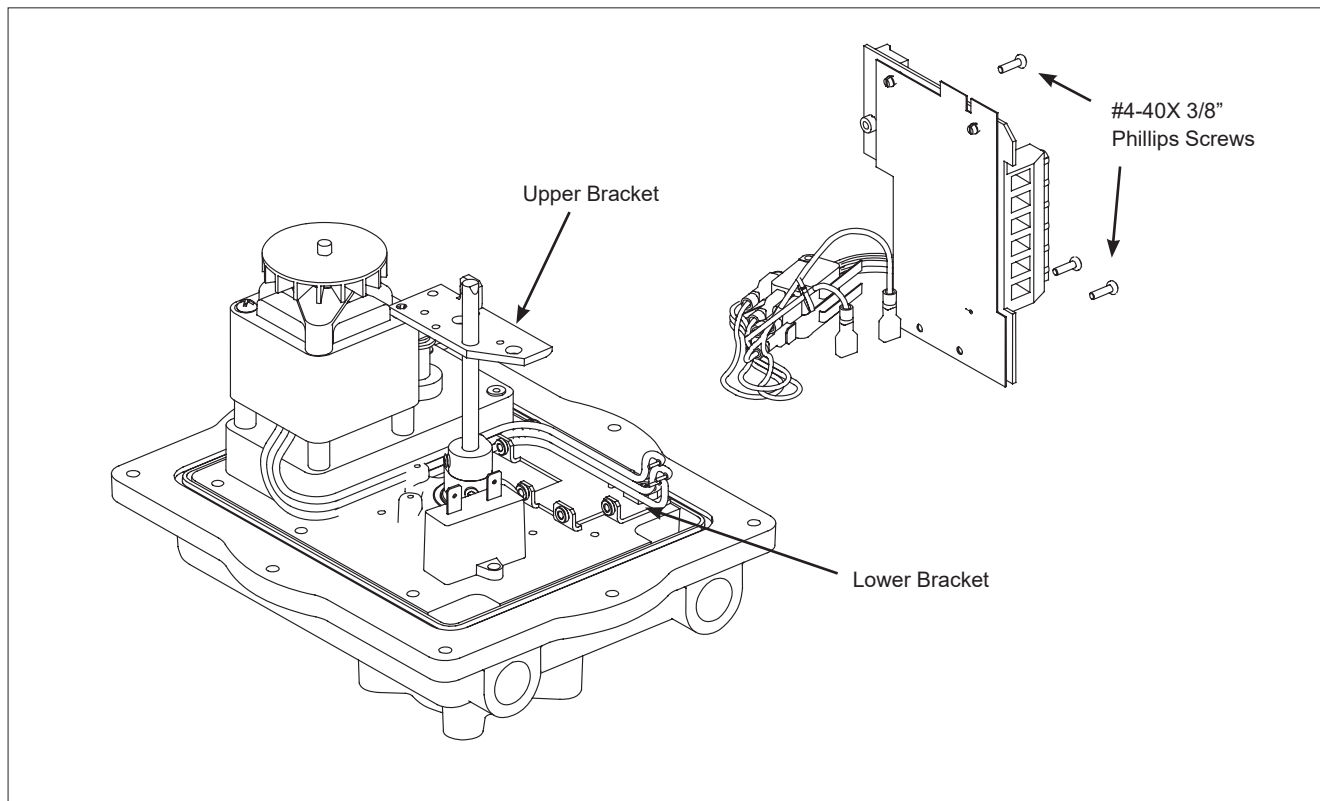

Figure 1. Exploded View
4. Position the Motor Board as shown in Figure 1, and secure it to the lower bracket with two of the supplied mounting screws, (#4-40 X 3/8", round head, Phillips).